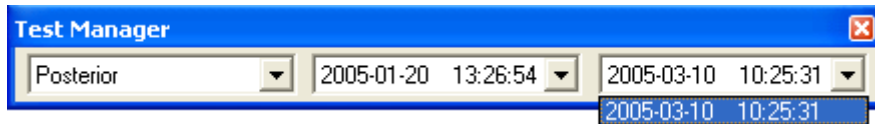

Fig. 13. Test manager with the pulled out list Subordinate test date
6. If the test opened in item 4 has its subordinate tests, after its opening the list *Subordinate test date* will be pulled out (⇒ Fig. 13).